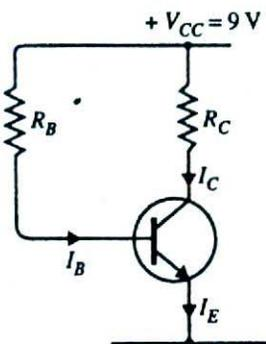

Fig. 11.33
3. Fig. 11.33 shows biasing by base resistor method. If it is required to set the operating point at 1mA, 6 V, find the values of  $R_C$  and  $R_B$ . Given  $\beta = 150$ ,  $V_{BE} = 0.3 \text{ V}$ . [  $R_C = 3 \text{ k}\Omega$ ,  $R_B = 0.3 \text{ M}\Omega$  ]